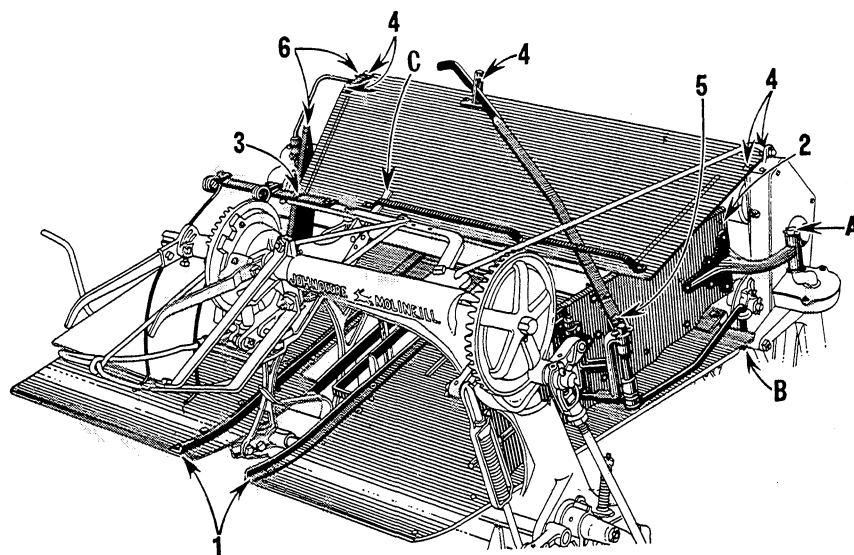

Figure 84
1. (Figures 84 and 85) Bolt front and rear decks together with deck connection and remove other bolts. Hold complete deck firmly and insert in binder attachment from the top, then place in grooved bar. Fasten the four small bolts securely. Bolt deck extension to grooved bar at rear of binder.
2. (Figure 84) Scrape paint from adjuster crank and set adjuster in place. Insert cotter pins at "A" and "B."
3. (Figure 84) Bolt check spring rail extension to top of breastplate support bar.
4. (Figure 84) Assemble adjuster shifter lever on grain deflector. Pass deflector guide strap over breast plate extension at "C" and secure cover with four bolts. Put all four bolts in from the bottom.
5. (Figure 84) Bolt lever to adjuster.
6. (Figure 84) Secure windboard in bracket with set screw.